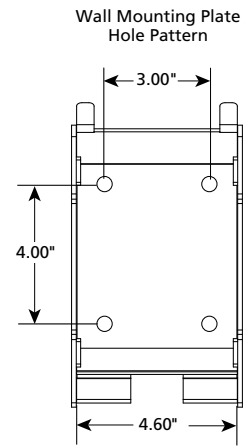

FIGURE 2
- 2: Place the wall mounting bracket in desired location and secure to wall with 3/8" bolts or studs (by others). See Figure 2.